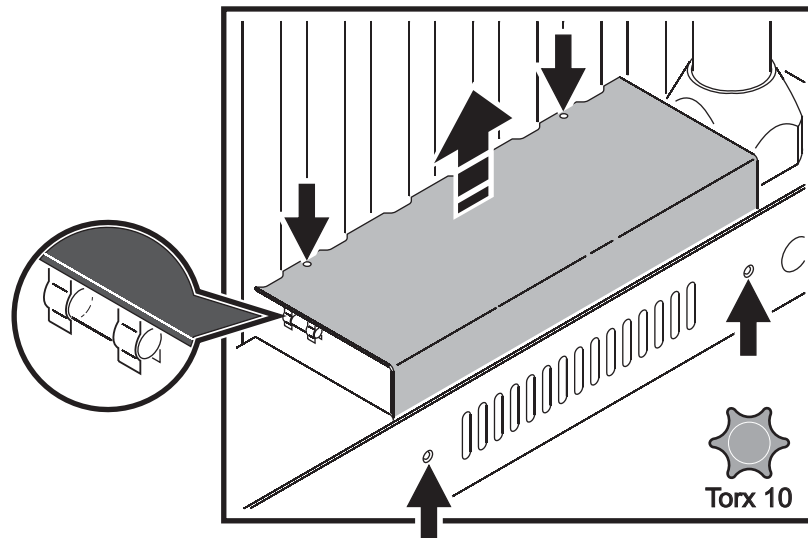

Figure 19: Fuse replacement
2. See Figure 19. Remove four screws (arrowed) from a base cover and lift the cover up slightly for access to the fuse. Avoid pulling hard on covers, as this will strain the wiring.